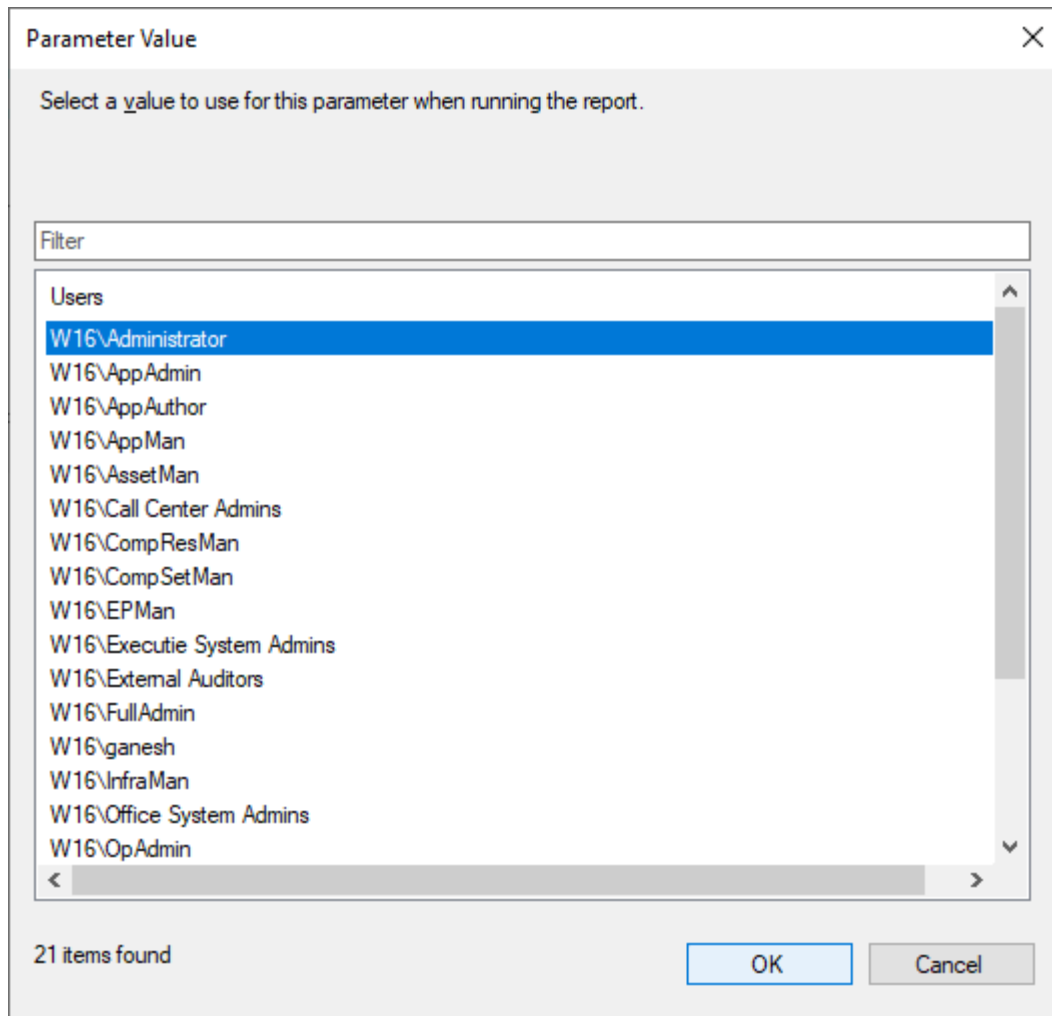

Figure 161: Choosing Users
- 2) Choose Users as shown in Figure 161